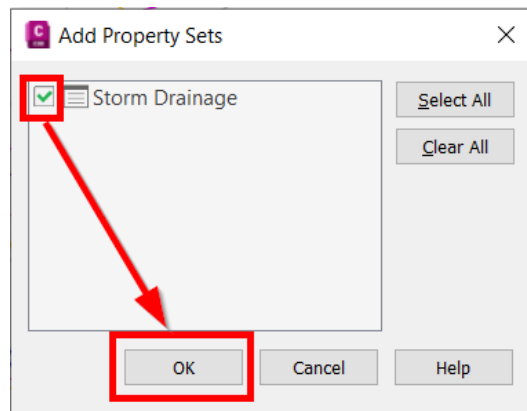

Figure 10.8 – Add property sets to objects
- After clicking the icon, an **Add Property Sets** dialog box will appear, at which point we'll go ahead and check the box next to **Storm Drainage** and click on **OK** (as shown in *Figure 10.8*).